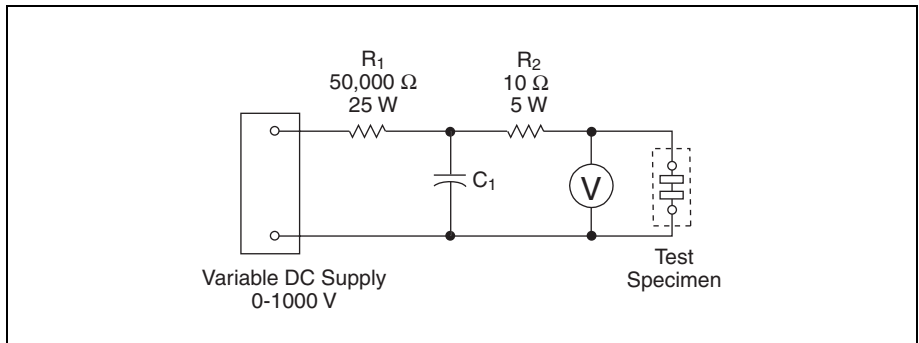

Figure 4.10 UL 497A Breakdown Voltage Measurement Test
2. Breakdown Voltage Measurement Test — Secondary protectors must break down within $\pm 25\%$ of the manufacturer’s breakdown rating when tested in each polarity with a rate of voltage rise no greater than 2000 V/s . The secondary protector is to be mounted in accordance with the manufacturer’s installation instructions and then subjected to the test circuit shown in Figure 4.10. This requirement applies only to secondary protectors connected between Tip and Ring or Tip/Ring and Ground of the telephone loop.